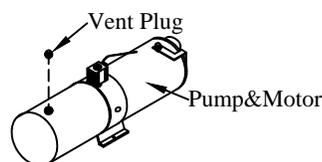

Figure 3: Vent plug installation.
- Unscrew** the solid plastic plug from the pump reservoir and **Install** the vent plug provided, if not already installed (Figure 3).